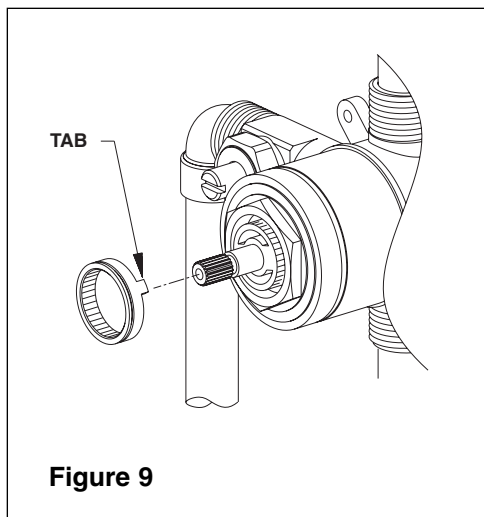

Figure 9
3. Note the stop tab on the bottom of the ring (See Figure 9). The further it is reoriented in a counter-clockwise direction, the shorter the travel allowed (and thus, the lower the temperature output possible).